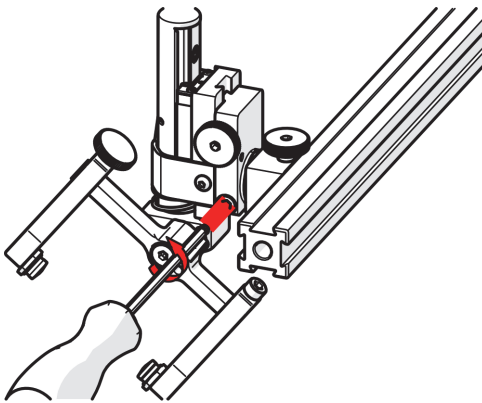

Figure 2-63 Loosen 3 mm screw
2. Using the supplied 3 mm hex driver, loosen the longitudinal adjustment screw (see Figure 2-63 on page 99).